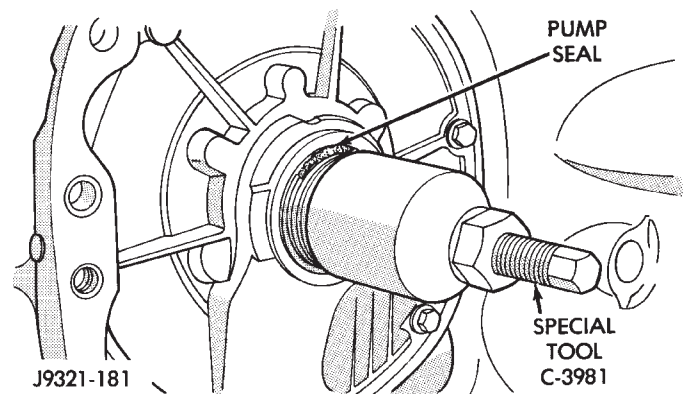

Fig. 8 Oil Pump Seal Removal
(13) Remove pump oil seal with Special Tool C-3981 (Fig. 8). Be sure to tighten tool threads completely into seal before using puller bolt to withdraw seal.